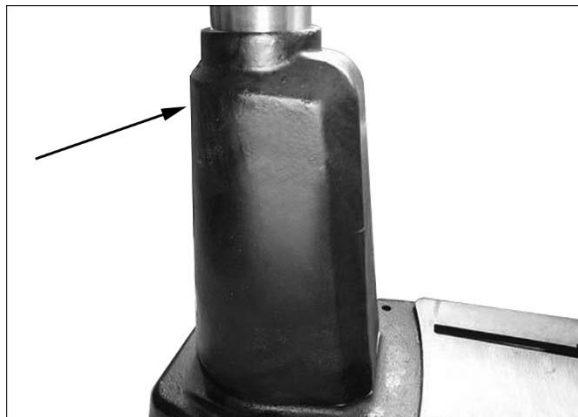

Figure 4
2. Make sure the set screw (*Figure 4*) is tight against the column. Tighten further if needed, using a 5mm hex key.